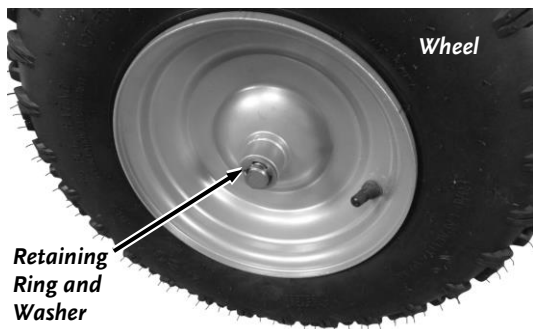

Figure 39
2. Remove the Retaining Ring and Washer of both Wheels with a Flat Head Screwdriver and remove the Wheels (**Figure 39**).